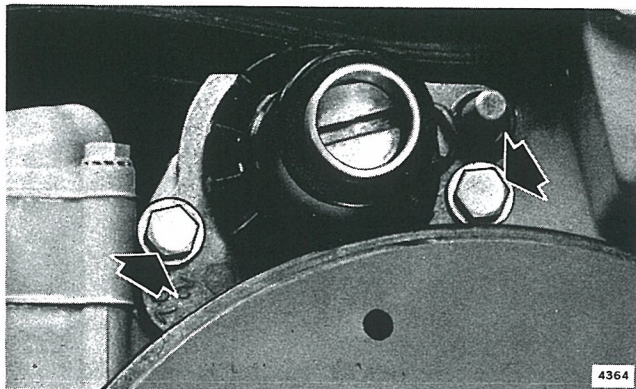

Figure 7-6. Remove Bearing Head Screws
b. Remove knot and slowly allow starter main spring to unwind completely. Remove two bearing head screws and lift starter from power head. See Figures 7-6 and 7-7.